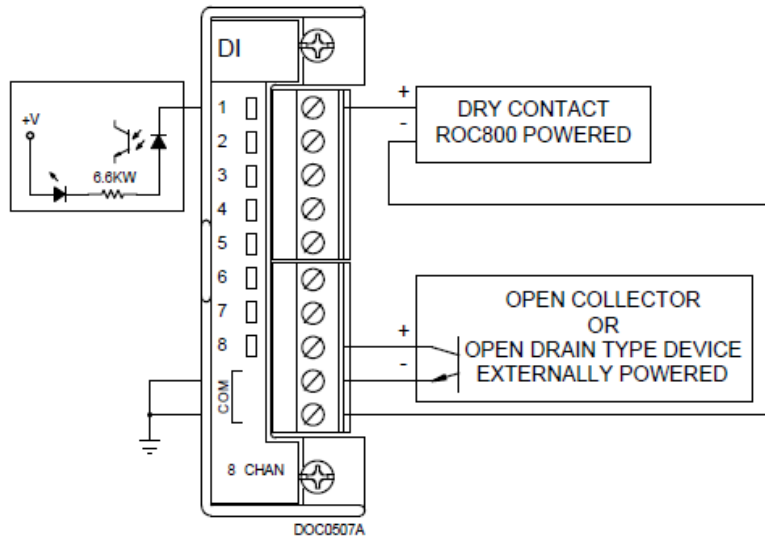

Figure E-9. DI Module Field Wiring
**Hardware/Wiring** You can either connect a DO channel with the DI channel to be tested or connect to an external source. See *Figure E-9*.